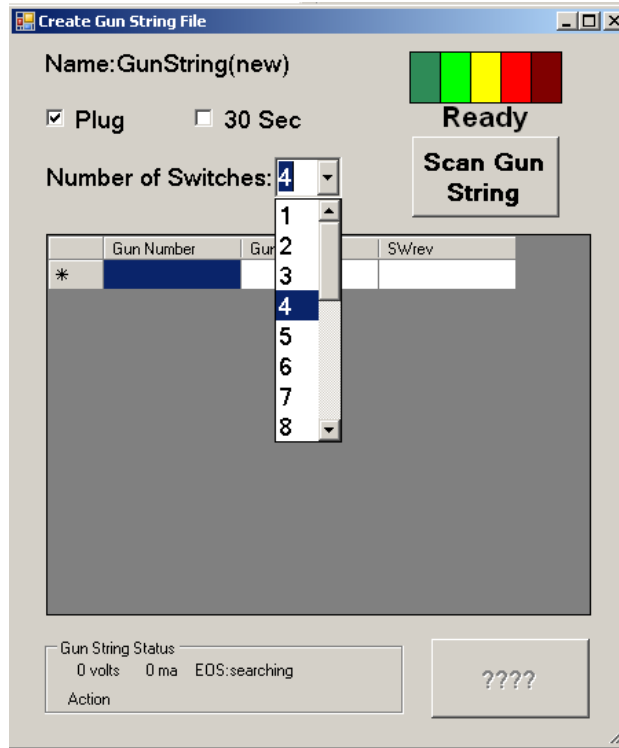

Figure 18
2. Click on the **Create** button to create a new gun string. This opens the Create Gun String Screen shown in Figure 18